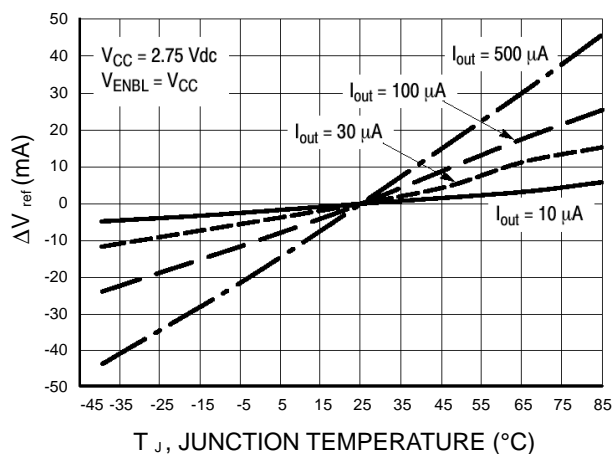

Figure 2.  $\Delta V_{ref}$  versus  $T_J$  @  $I_{out}$
| See Figures 2 and 11  |                  |       |           |          |       |
- Step 4: Choose  $I_{out}$  keeping in mind that too large an  $I_{out}$  can impair MDC5000  $\Delta V_{ref}/\Delta T_J$  performance (Figure 2) but too large an  $R_6$  can cause  $I_{DGO}$  &  $I_{GSO}$  to bias on the FET.